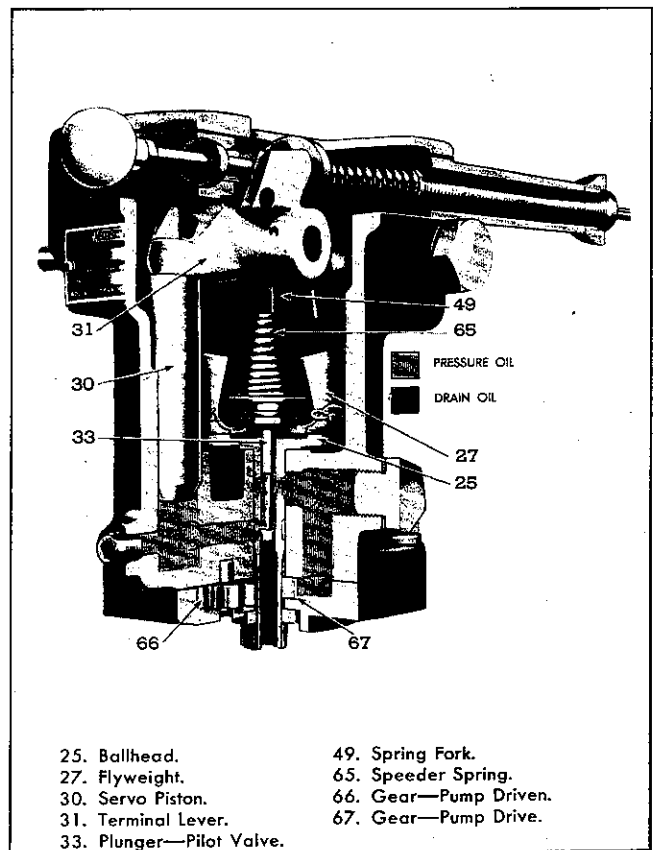

Fig. 33—Position of Governor Mechanism as Load Increases and Engine Speed Tends to Decrease.
Refer to Fig. 33 and assume now that a load increase is applied to the engine. The engine speed will drop and the governor flyweights will be forced inward, thus lowering the pilot valve plunger. Oil under pressure of the pump will now be admitted underneath the servo piston which will rise. Upward motion of the piston is transmitted through the terminal lever (31) and fuel rod (13) to the injector control racks, causing the fuel setting of the engine to be increased.